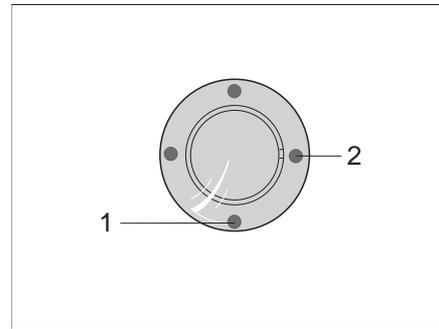
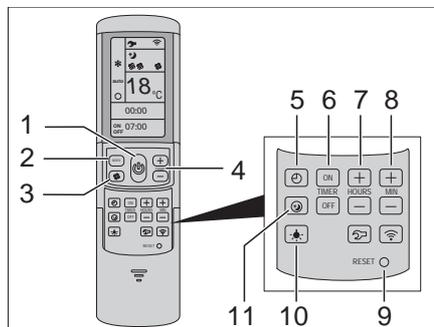

Fig. 123 Infrared receiver/function display
Fig. 124 Remote control
The air conditioning unit is located on the roof of the vehicle. The remote control (Fig. 124) for the air conditioning unit is located in the kitchen area.
- The air conditioning unit is ready to operate. The blue LED (Fig. 123,1) lights up.
- To switch on press the button (Fig. 124,1) on the remote control. The blue LED (Fig. 123,1) flashes.
- Set the desired operating mode using the MODE button (Fig. 124,2).
- If necessary, set the desired fan level by using the button (Fig. 124,3) and the room temperature by using the buttons (Fig. 124,4).
When the temperature set on the remote control is reached, the blue LED (Fig. 123,1) goes out, the compressor switches off and the circulation fan continues to run.
- To switch off press the button (Fig. 124,1) on the remote control again.
- To carry out programming, switch on the air conditioning unit by using the button (Fig. 124,1) on the remote control.
- Set the desired operating mode by using the button (Fig. 124,2) and the room temperature by using the buttons (Fig. 124,4).
- Use the buttons (Fig. 124,6) to select the desired function:
- Use the buttons (Fig. 124,7 and 8) to select the desired switching time (15 minutes to 24 hours).
- Confirm the setting with the buttons "ON" or "OFF" (Fig. 124,6).